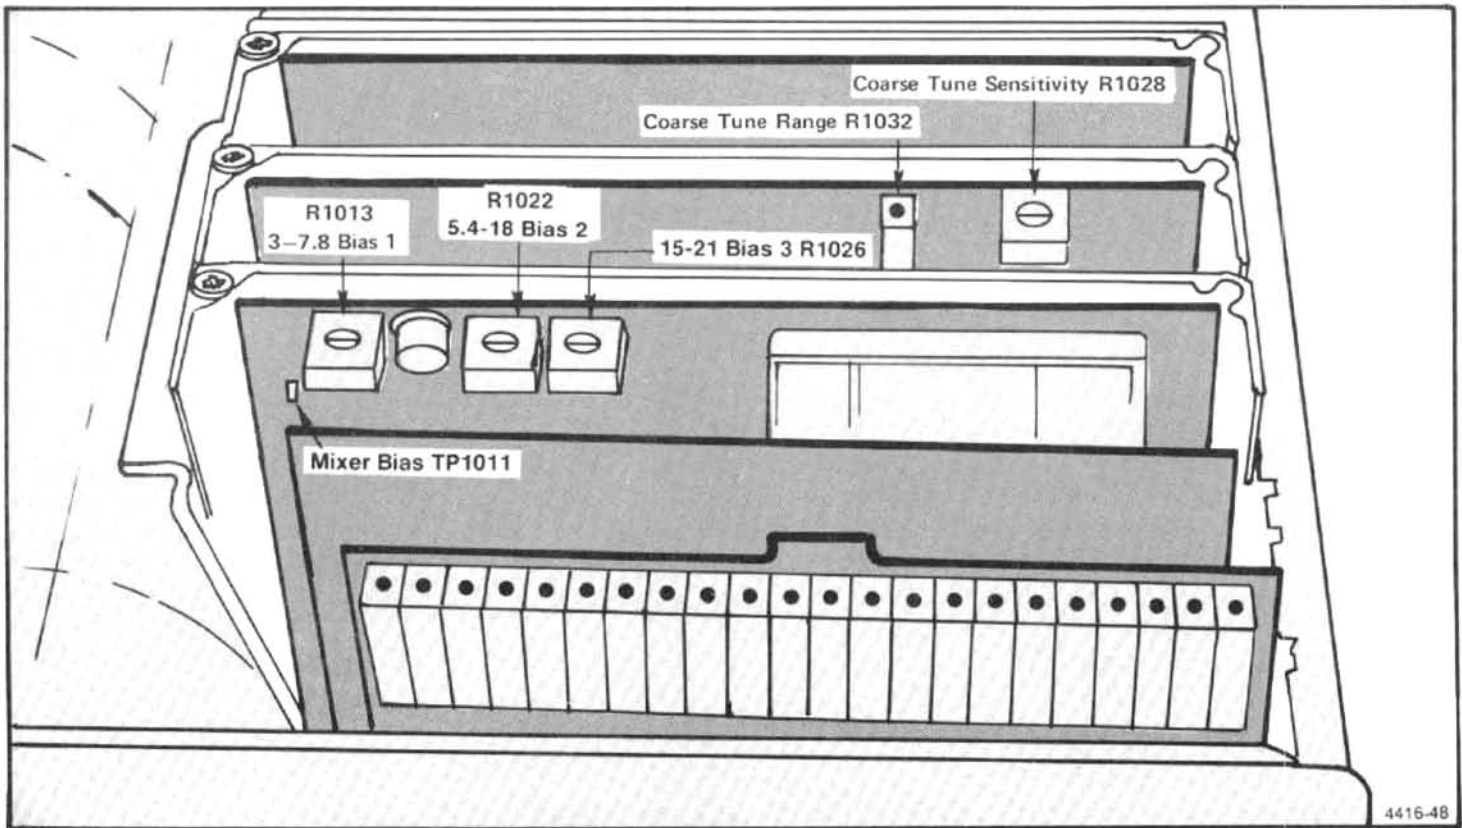

Figure 5-13. Adjustment and test points on the 1st LO Driver board.
- b. Connect a DVM between TP1011, on the 1st LO Driver board (Figure 5-13) and ground (crt shield). Adjust R1013 (Figure 5-13) for -1.0 V.